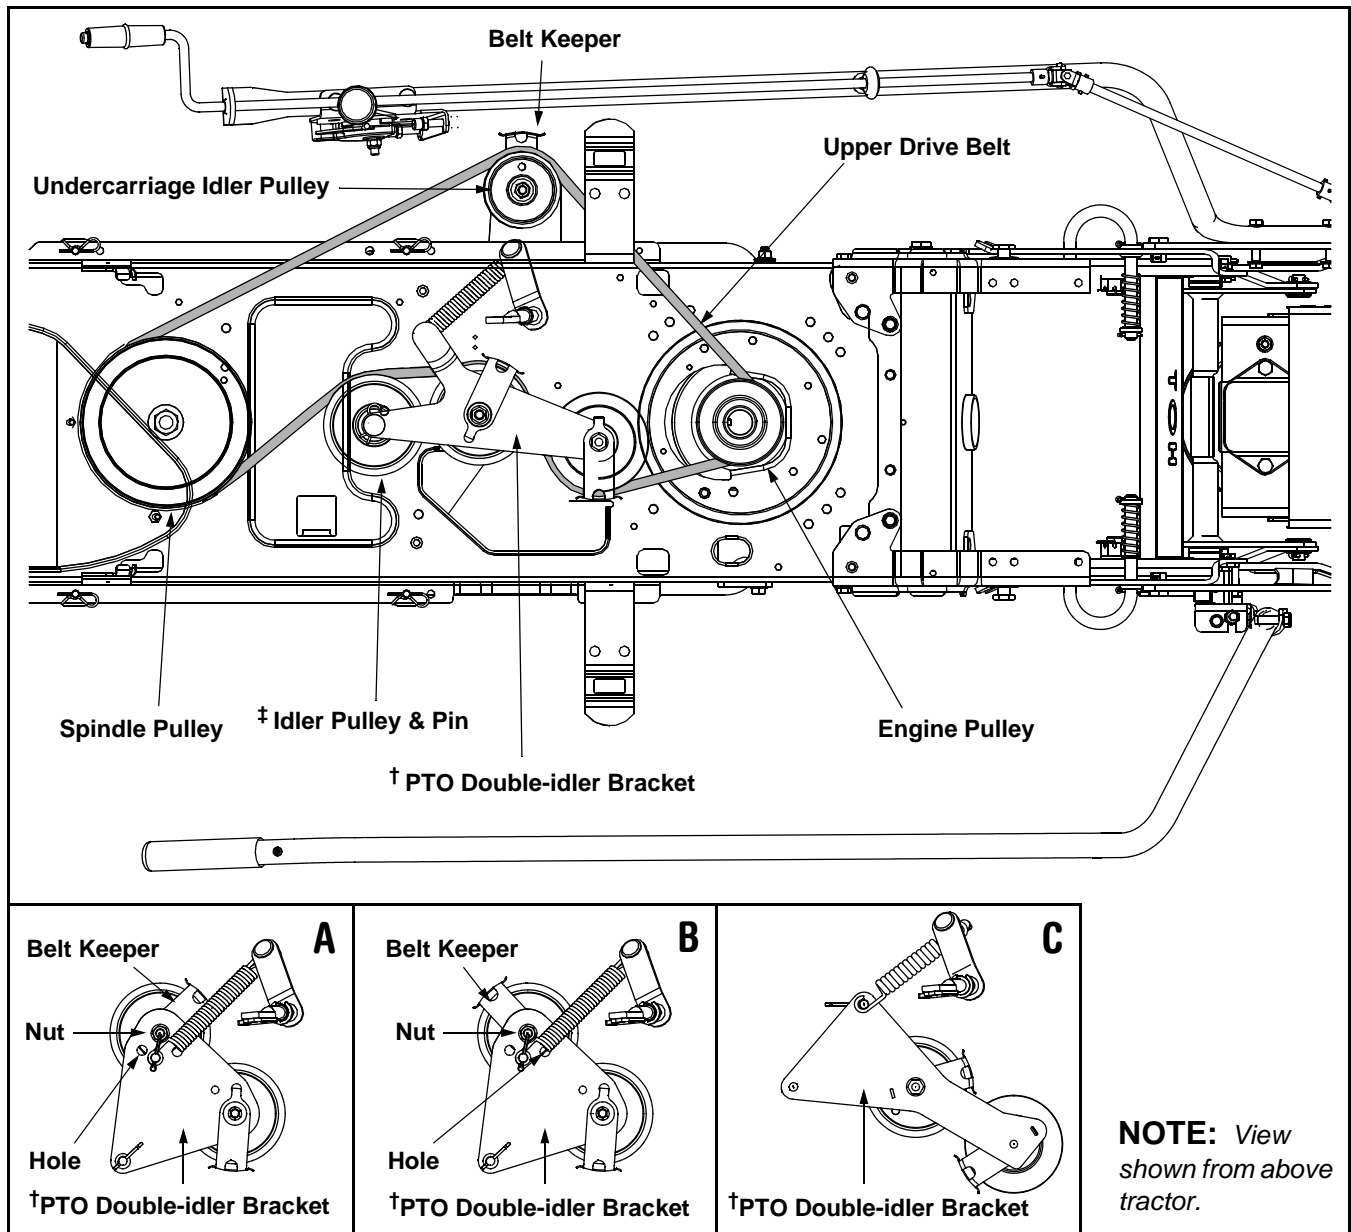
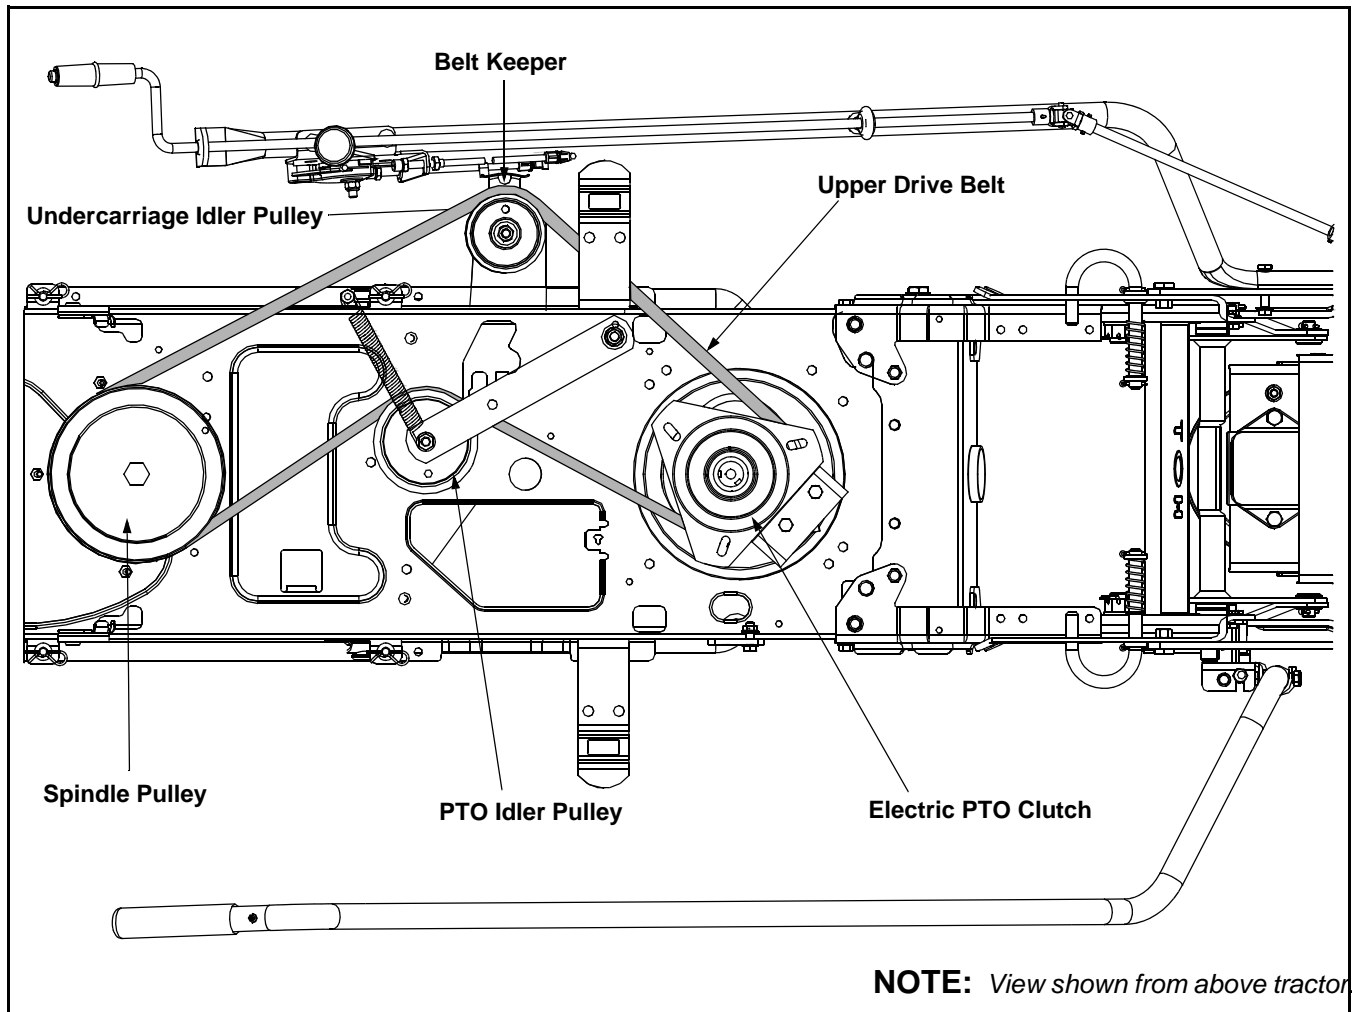

**Figure 17**
Figure 19
1. Route the upper drive belt around the spindle pulley, the pulley found on the idler assembly mounted earlier, the undercarriage idler pulley and the electric PTO clutch as illustrated in Figure 17. Make sure that the belt is routed to the **INSIDE** of all the keeper pins on the spindle pulley.
2. Attach and route the proper upper drive belt (refer to the table on page 8) around the spindle pulley and idler pulley found on the undercarriage, the lower portion of the engine pulley and the two pulleys found on the PTO double-idler bracket as illustrated in Figure 17. Make sure that the belt is routed to the **INSIDE** of all belt keepers on the idler pulleys and the keeper pins found around the spindle pulley.
\* The belt-routing configuration illustrated in Figure 19 DOES NOT apply to tractors equipped with a 54-inch deck. For tractors equipped with a 54-inch deck, refer to Figure 17 on page 12.
1. Attach and route the upper drive belt around the spindle pulley and idler pulley found on the undercarriage, the electric PTO clutch and the PTO idler pulley as illustrated in Figure 19. Make sure that the belt is routed to the INSIDE of the belt keeper on the undercarriage idler pulley and the remaining keeper pins found around the spindle pulley.